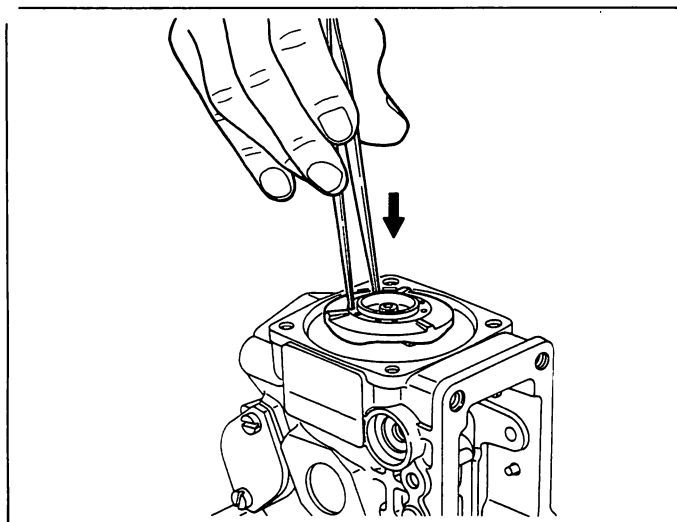

Fig. 56 Installing the cam disk
Before installing the cam disk (29), turn the drive shaft so that its keyway faces the top of the pump. Next, position the knock pin fitted on the cam disk/plunger contact face so that it is facing in the same direction as the keyway i.e. towards the top of the pump. Install the cam disk. (Fig. 56)